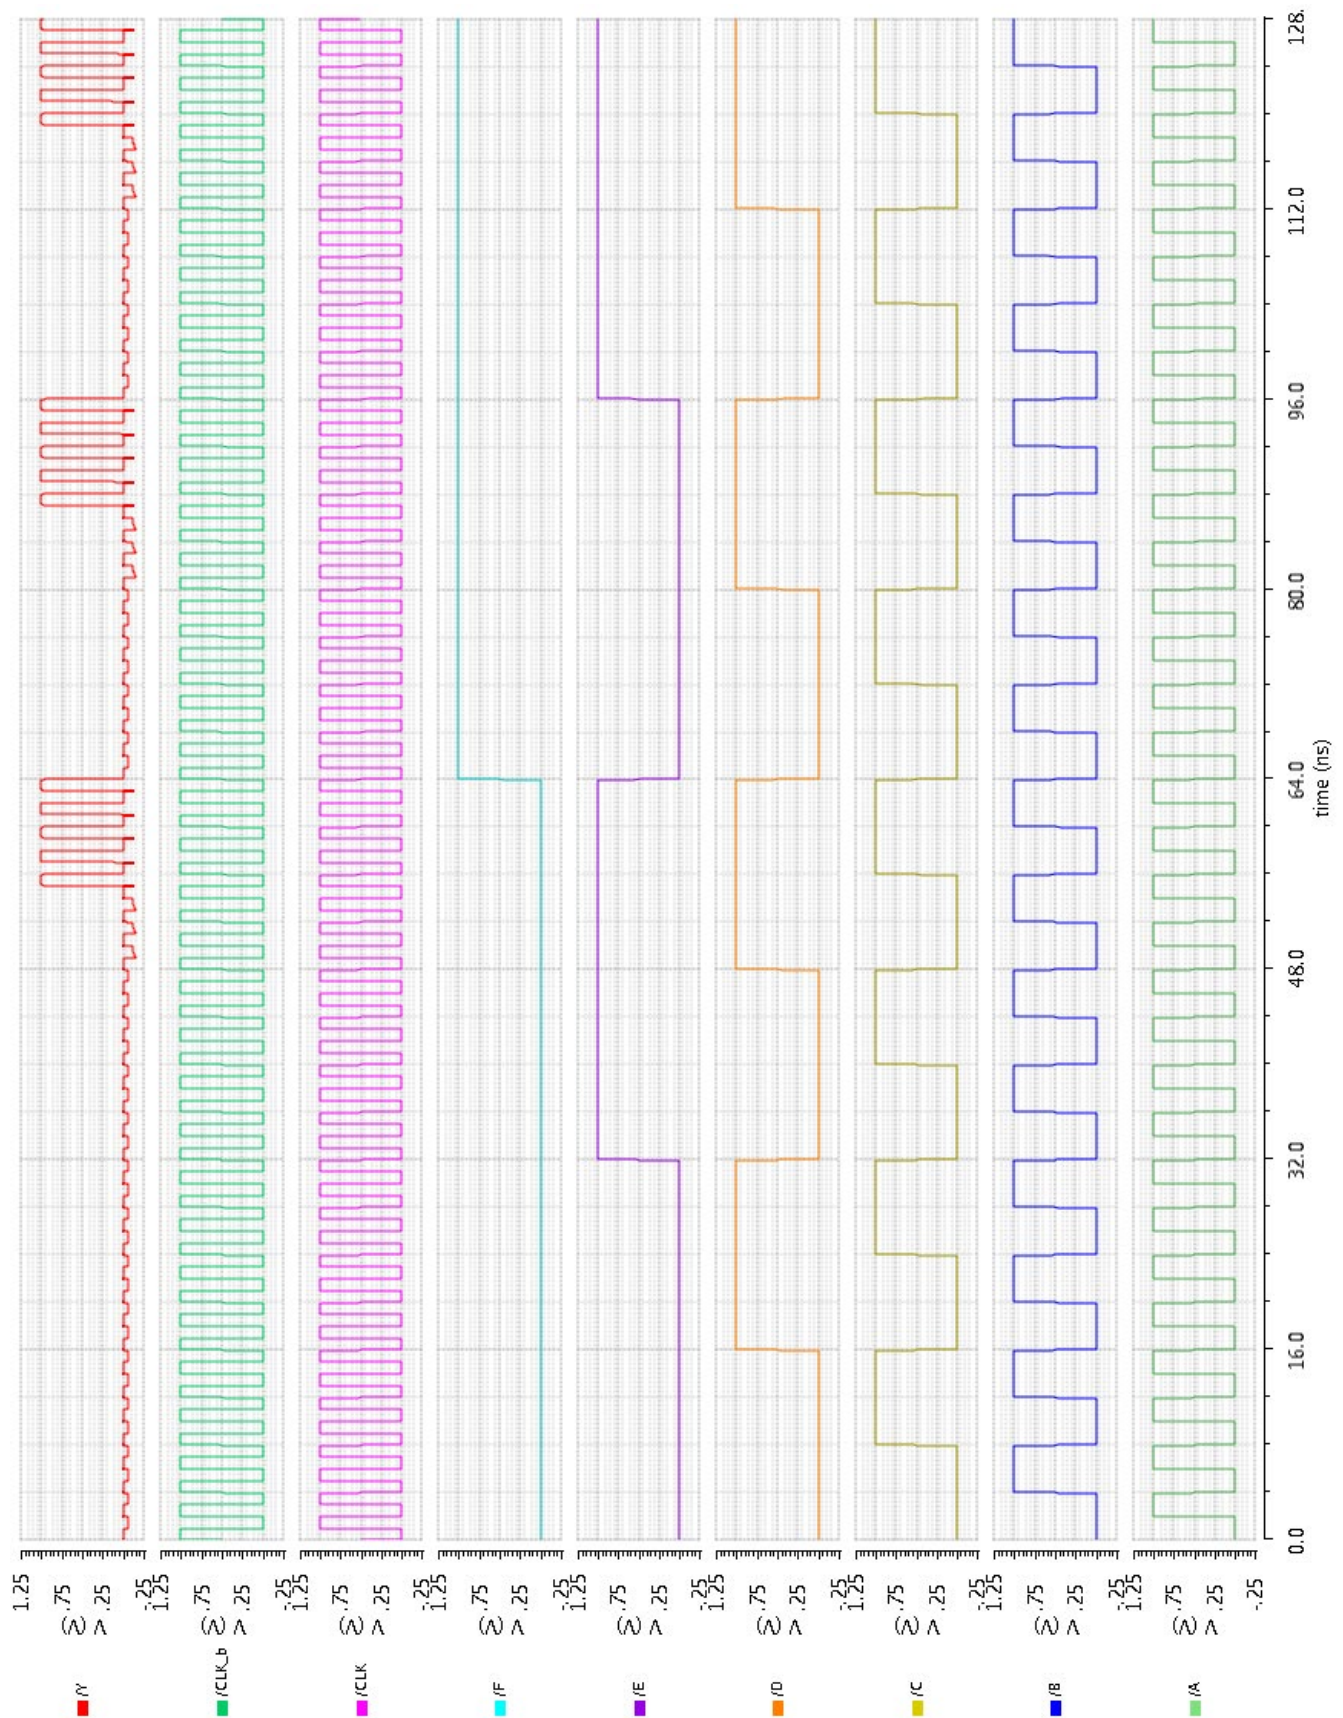

Figure 22: Expected waveforms of the simulation (in your case at VDD=1.2V)
Step 3: Create a simulation schematic and make necessary adjustments to observe the same waveform of Figure 22.